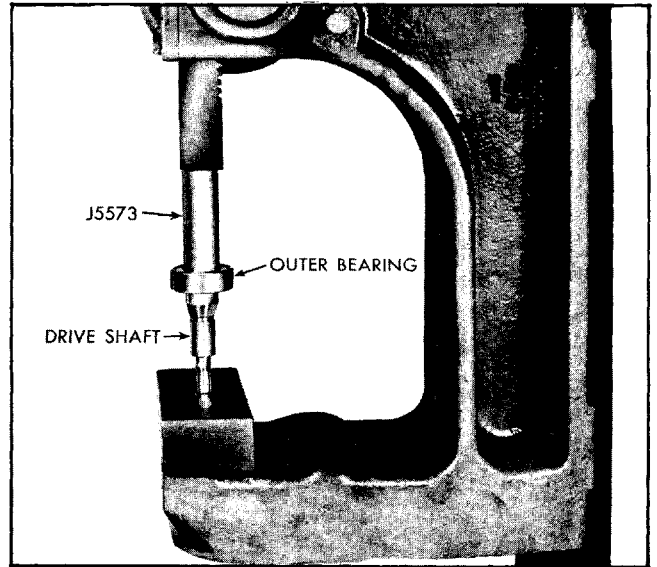

Fig. 9-52 Installing Outer Bearing on Shaft
2. Inspect drive shaft for wear and check both ball bearings for roughness or noisy operation. If outer bearings must be replaced, press off shaft with tool J-5573 (Fig. 9-52).
3. If removed, install outer bearing on shaft using tool J-5573 (Fig. 9-52).